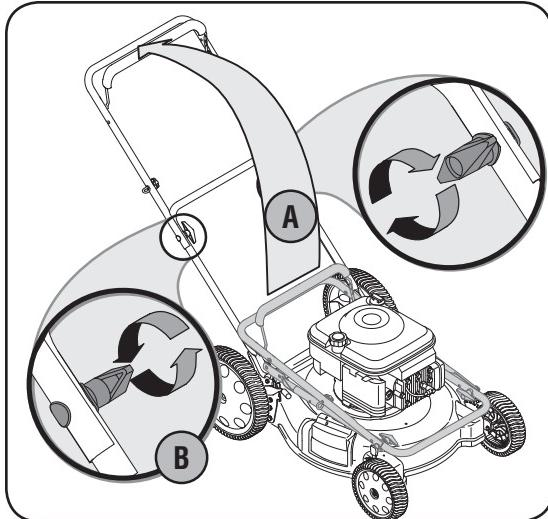

Figure 1
a. Pull up and back on the upper handle to raise the handle from position A into the operating position. See Figure 1.